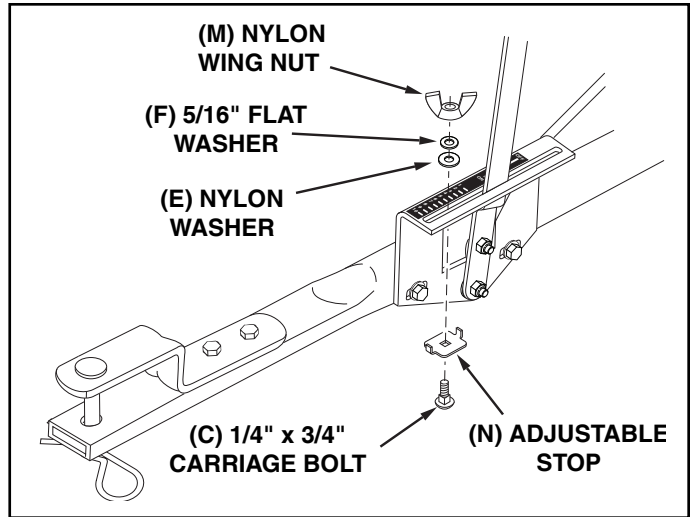

FIGURE 11
20. Place the adjustable stop (N) into the "ON" end of the slot in the top of the flow control mounting bracket. Secure with the 1/4" x 3/4" carriage bolt (C), a nylon washer (E), a 5/16" flat washer (F) and the nylon wing nut (M). See figure 11.